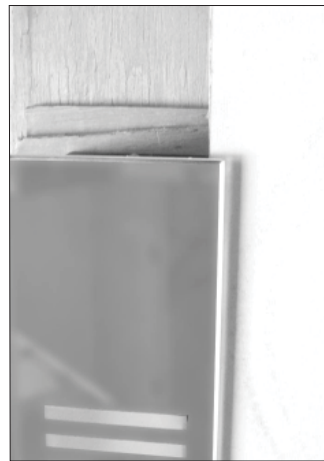

Figure 18
Step 15 Back of mirror should be flush with sheetrock face when installed. (Fig 18)